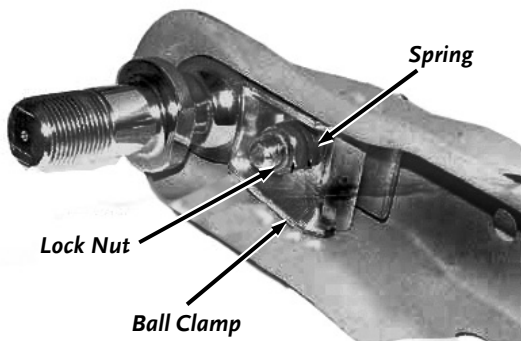

Figure 52
1. With the proper size ball in the socket of the hitch coupler, close the latch of the coupler completely (Figure 52). Verify that the locking trigger is properly engaged in its detent.